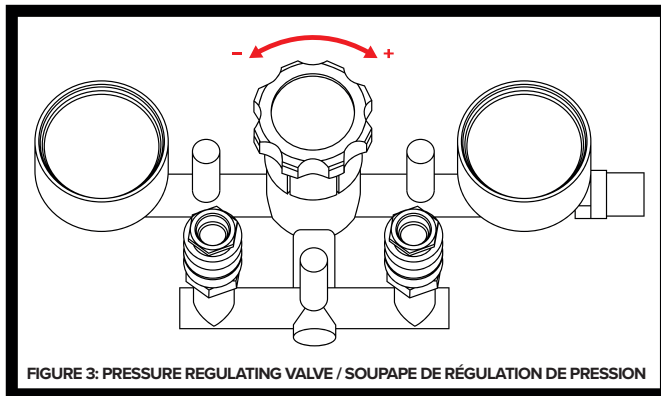

FIGURE 3: PRESSURE REGULATING VALVE / SOUPAPE DE RÉGULATION DE PRESSION
NOTICE! Do not operate the compressor before reading instructions or damage may result. (Refer to **Fig.2** and **Fig.3**)
1. Turn regulator (**Fig.3**) fully clockwise to open airflow.
4. Turn regulator knob (**Fig.3**) fully counter-clockwise. Compressor will build to maximum preset pressure and shut off.
5. Turn regulator knob (**Fig.3**) clockwise to cause air to bleed off. Compressor will restart at a preset pressure.
6. Turn regulator knob (**Fig.3**) counter-clockwise to shut off the air and turn switch to off position.
7. Attach chuck or other tool to open end of hose. Turn the regulator (**Fig.3**) on. With the switch (**Fig.2**) in the ON position, the compressor pumps air into the tank. It shuts off automatically when unit reaches its maximum preset pressure. In the OFF position, the pressure switch cannot function and the compressor will not operate. Make sure switch (**Fig.2**) is in OFF position when connecting or disconnecting power cord from electrical outlet.
(See Fig.3)